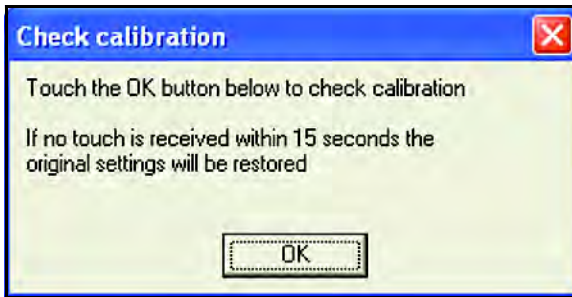

Figure 126: Calibration Confirmation Screen
3. Go through all the points, touching each arrow tip or cross center as it appears. Try to avoid parallax. When you have finished, the window shown in *Figure 126* below opens. Touch **OK** to confirm your calibration.